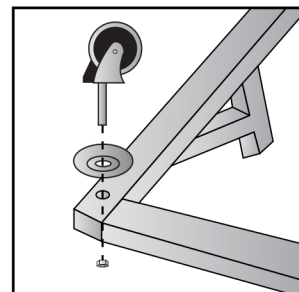

Figure 4
5. Align and insert casters with rubber bumpers. Tighten bolt on opposite side using included wrench. (Figure 4)